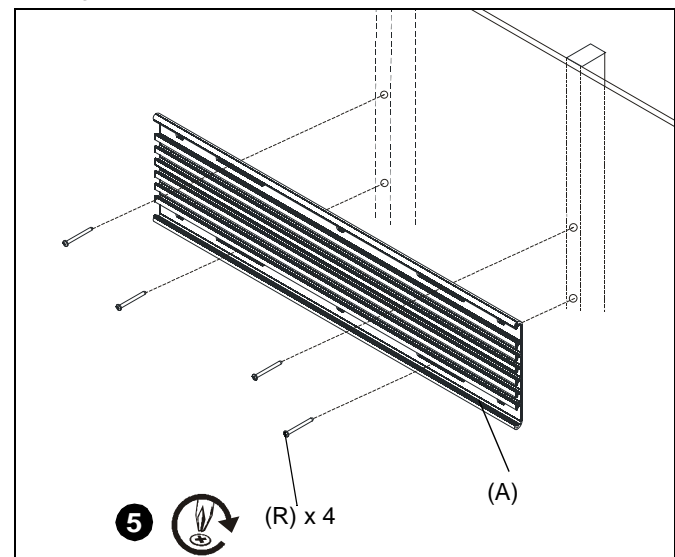

Figure 23
5. Install four #12 x 2 1/2" round pan wood screws (R) through wall accessory holes into the holes drilled in Step 4. (See Figure 23)